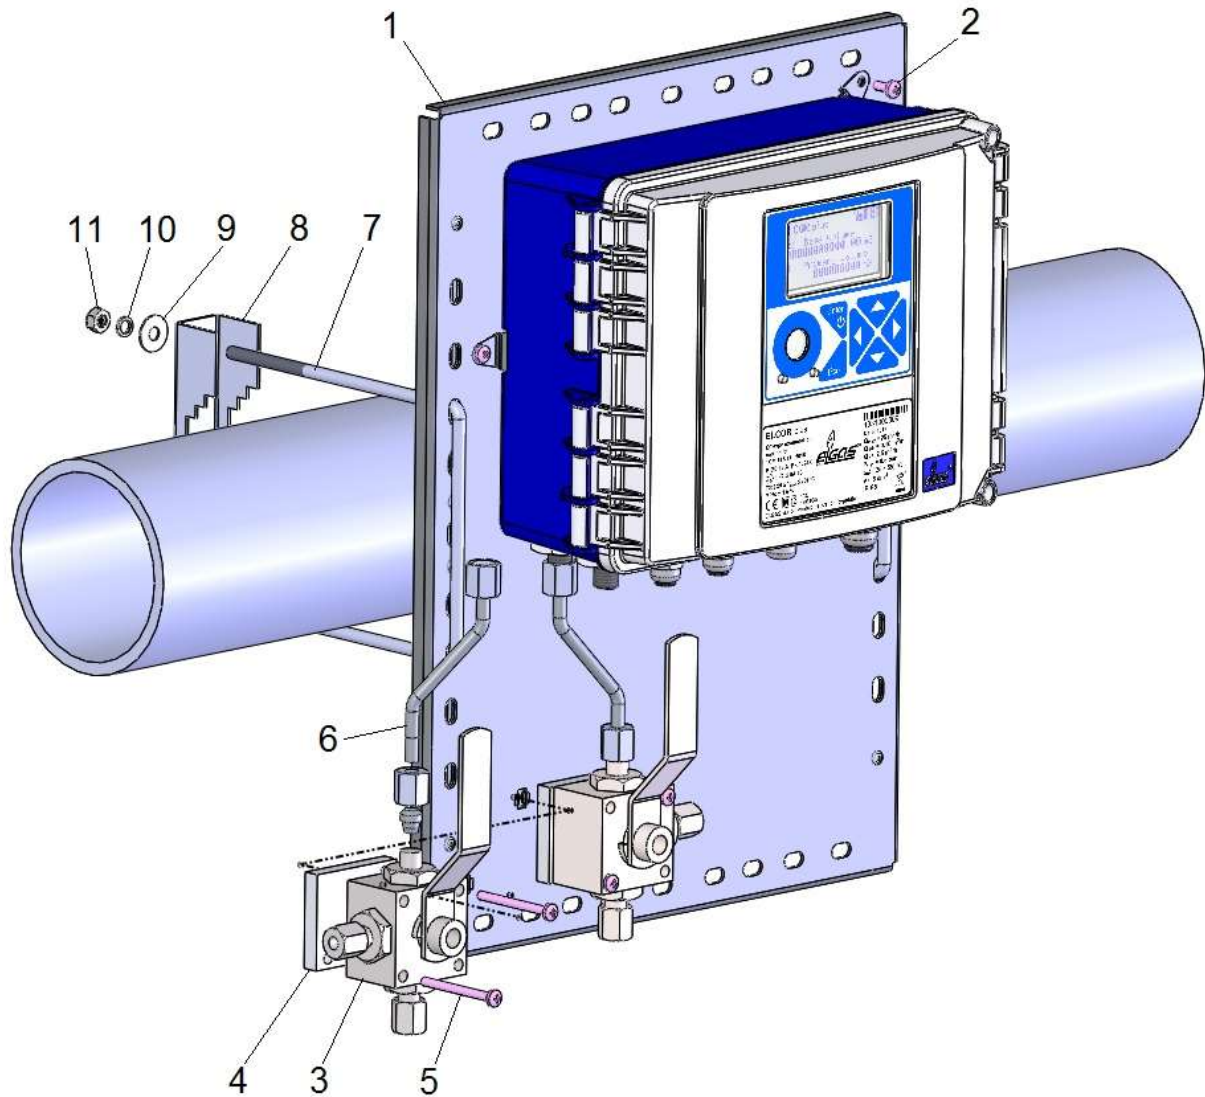

Fig. 11 Mounting the device on a pipe (dual channel ELCORplus)
4. Attach the 3-way valve **2** to the prepared position on the mounting plate using 2 screws M4x45 ISO 7045 **5**. Place a metal washer between the valve and the mounting plate (position (4) in Fig. 11). Before the assembly, make sure that the outlets are properly oriented and check the position of the three-way valve. Connect the free end of the connection tube to the three-way valve outlet (for more details, refer to Section 5.4.4).
Clamps (7) (see Fig. 11) with spacings corresponding to the pipe diameters are reeved through the openings in the mounting plate (1) and inserted into the pipe. Fasteners (8) are fixed onto the free ends of the clamps by means of nuts M6 (11) and washers (9) and (10) to secure the mounting plate in the desired position on the pipe. The mounting plate can be used for fixing to a pipe of diameter:
The corrector connected via the three-way valve is shown in Fig. 11. Pressure tube 6x1 **6** with cutting ring pre-pressed on both sides is first thoroughly inserted into the pressure inlet of the device and secured with M12x1,5 ERMETO nut. The other end of the tube is attached to the three-way valve working outlet fitted on the mounting plate and the nut is gently tightened. The last operation is tightening the nuts on both sides of the connecting pressure pipe. Excessive force must not be applied when tightening the key, otherwise the thread will be damaged.